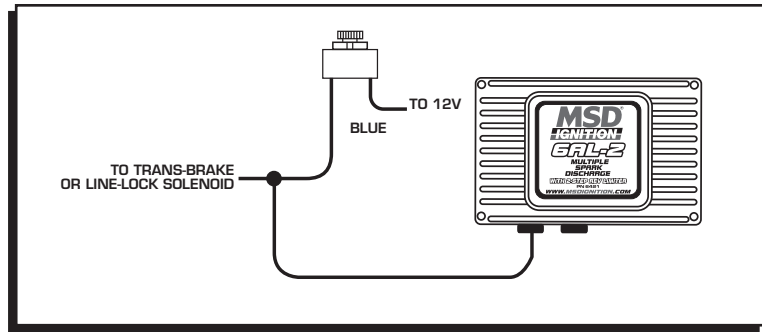

Figure 3 Wiring the 2-Step Rev Limit.
**2-Step Limit:** This rpm limit is activated when 12 volts are applied to the Blue wire. When activated, this limit overrides the Max Limit. This limit is adjustable from 1,000 to 9,900 and will default to 1,000 rpm if the dials are set to an rpm below this range. An example of wiring the 2-Step Limit so it is activated with the line-lock is shown in Figure 3.